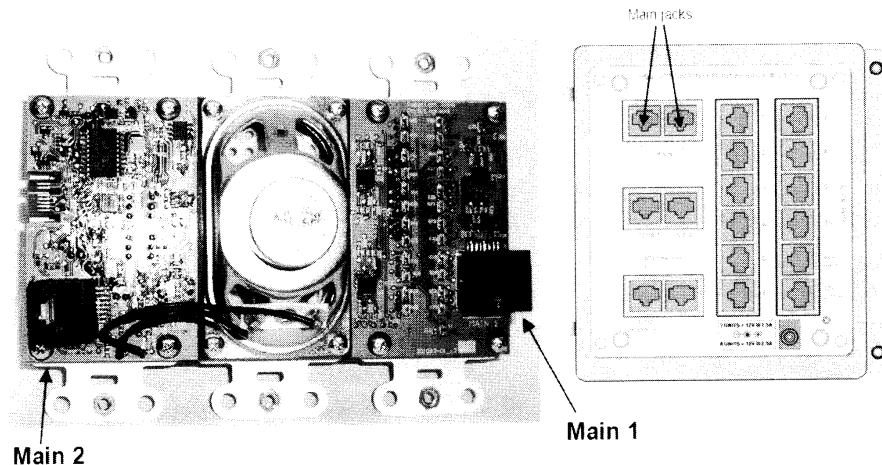

Figure 4 - inQuire™ 1000 Intercom System Trim-Out Phase
- Plug the terminated "Main 1" cable into the RJ45 jack on the rear of the Main Console Unit "Main 1" (see **Figure 4**).